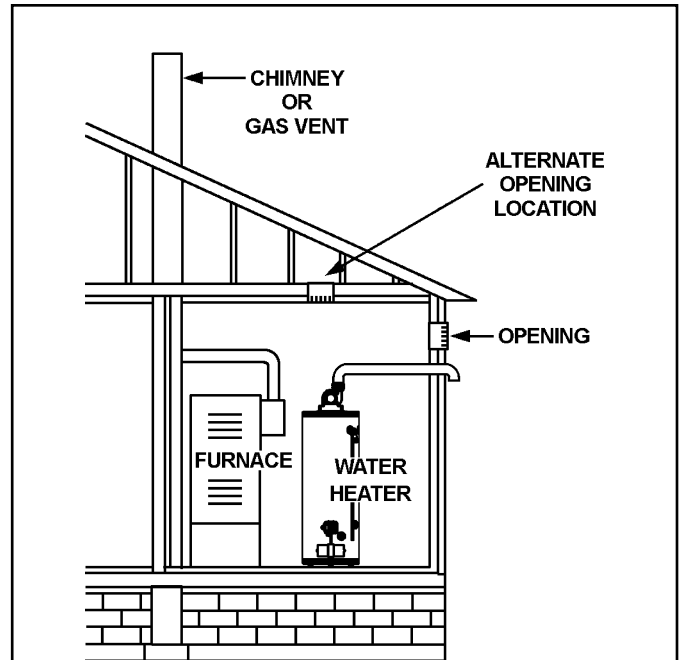

Figure 21
- Alternatively a single permanent opening may be used when communicating directly with the outdoors, or with spaces that freely communicate with the outdoors. The opening shall have a minimum free area of 1 square inch per 3,000 Btu/hr (8.3 cm²/kW) of total input rating of all equipment in enclosure (see Figure 21).